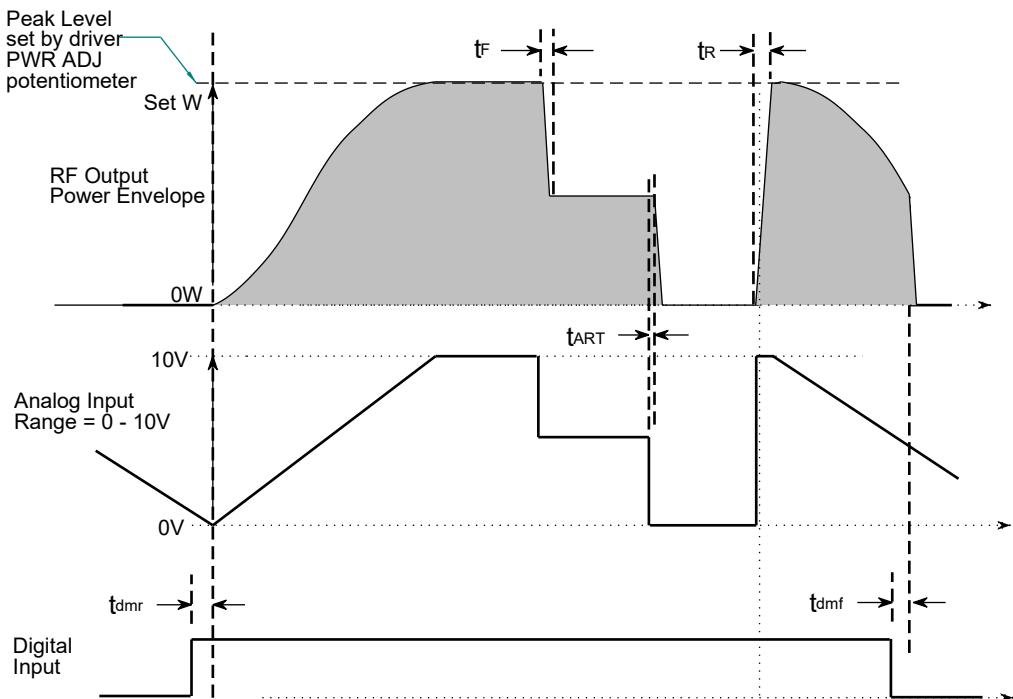

Figure 3: Typical RF Output Waveforms
3.14 The driver is now ready for use. Figures 3 and 4 illustrate typical modulation characteristics.